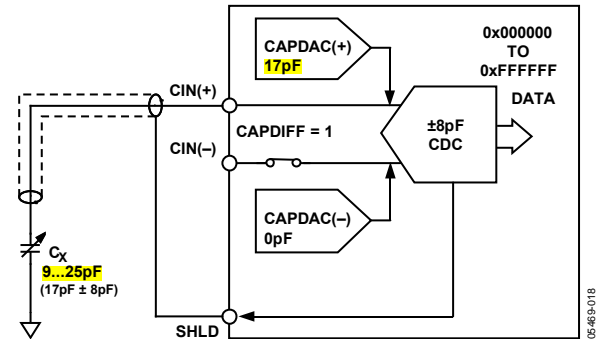

Figure 29. Using CAPDAC in Single-Ended Configuration
**Figure 29 shows how to shift the input range further, up to 25 pF absolute value of capacitance connected to the CIN(+).**